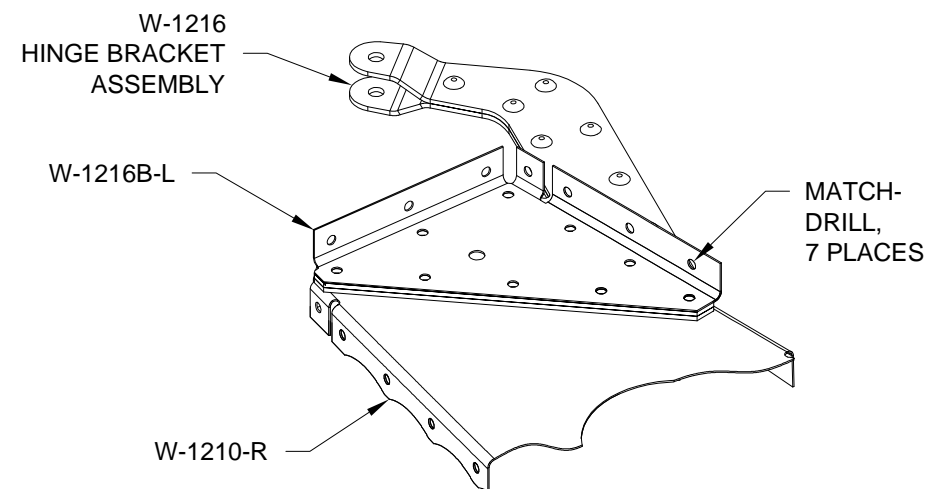

FIGURE 3: MATCH-DRILLING THE FLAPERON HINGE BRACKETS AND MAIN RIBS
Step 6: Select two of the W-1210-R Main Ribs and cleco one of them to the W-1216 Hinge Bracket Assembly and W-1216B-L Hinge Rib. Match-Drill #30 as shown in Figure 3. Repeat for the second main rib. Remove clecos, flaperon hinge brackets, and hinge ribs. Deburr.
Step 7: Select one of the forward flange trimmed W-1210-L Main Ribs and one of the unmodified left main ribs and cleco each to a W-1216 Hinge Bracket Assembly and W-1216B-R Hinge Rib. Match-Drill as shown in Figure 3. Remove clecos and Hinge Bracket Assemblies. Deburr.